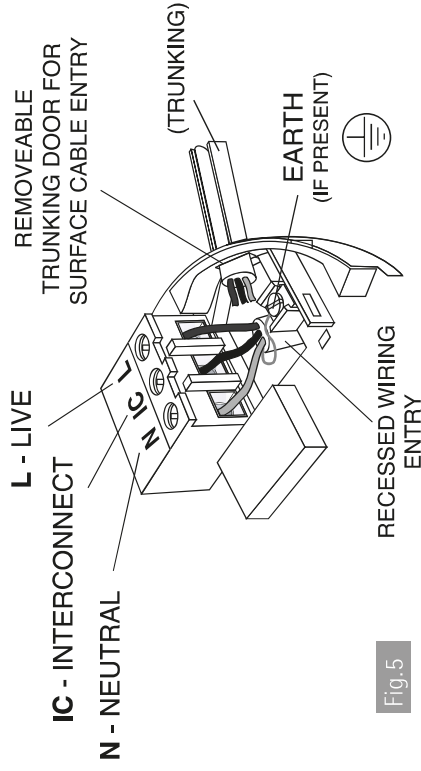

Fig. 5
IC: Interconnect - see figures 5 and 6 and further information in Section 2.7.
4. If the mains wires are recessed, bring the wires through the rear hole in the mounting plate as shown in Figure 5.
(a) position the mounting plate so the cable trunking is as shown in Figure 5.